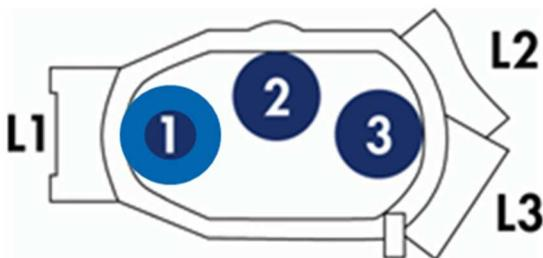

Figure 3. Rotor adapter positions.
12. Place enrichment column(s) in position of the rotor adapter(s), as indicated in Figure 3.